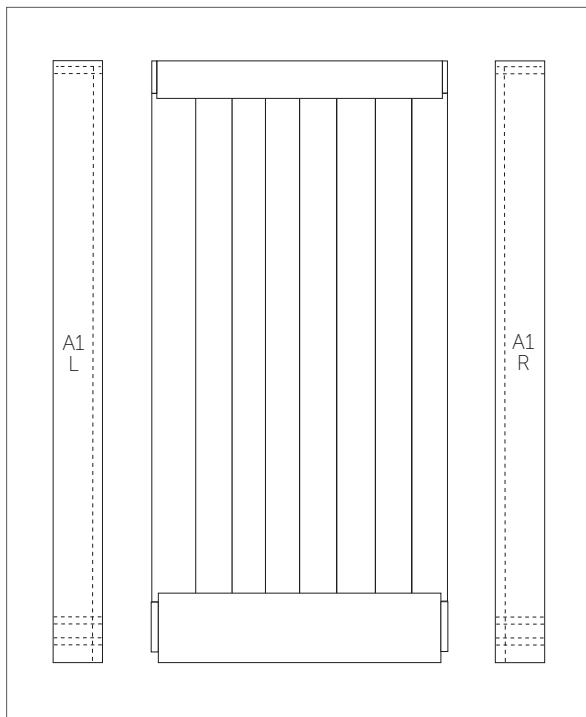

Figure 4
4. Place the left side stile (A1-L) beside the assembled slats and rails. Slide to the right to cover the top and bottom rail tongues and the edge of the slat assembly. Tap the rails into place with a rubber mallet. Repeat with the right stile (A1-R) (Figure 4).